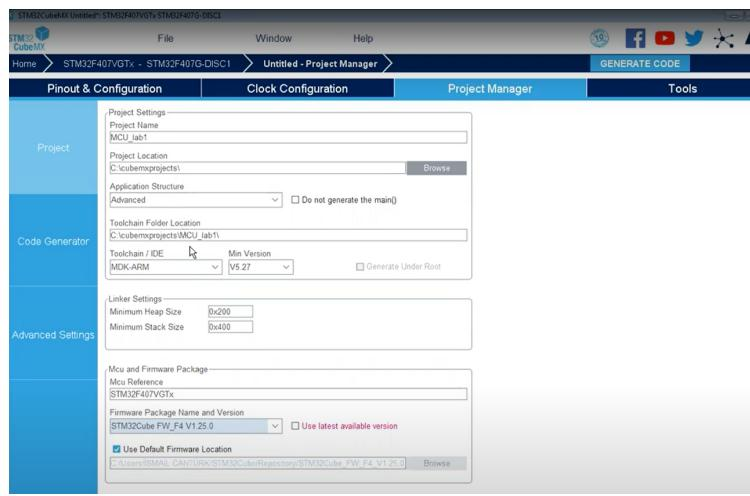
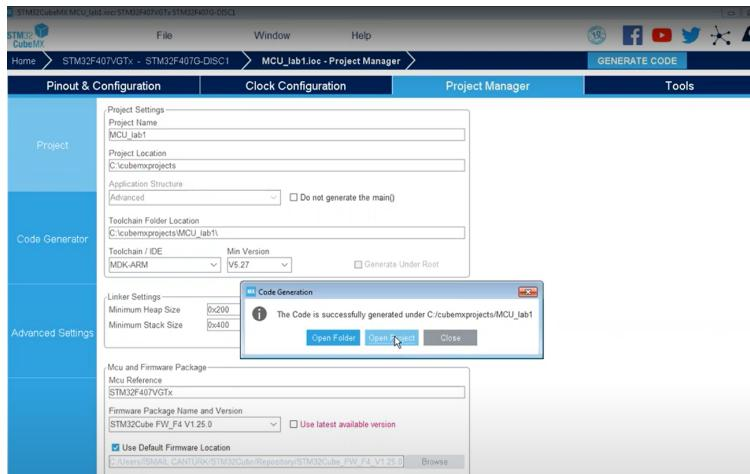

Figure 11
Figure 12
8. There is nothing we can change in the Clock Configuration section for this experiment. We come to the Project Manager menu and set the fields there as in Figure 11. Then you will select the Generate Code and now our template file is out. Select “Open Project” from the opened screen (Figure 12). Keil µVision will open.